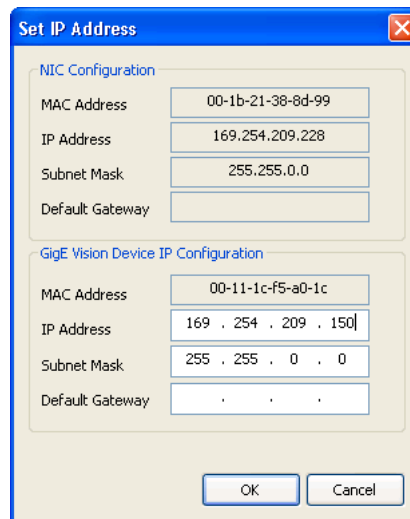

Figure 3.12: Setting IP address
4. Select a valid IP address for selected camera (see Fig. 3.12). There should be no exclamation mark on the right side of the IP address. Click on Ok in the Set IP Address dialog. Select the camera in the GEV Device Selection dialog and click on Ok.